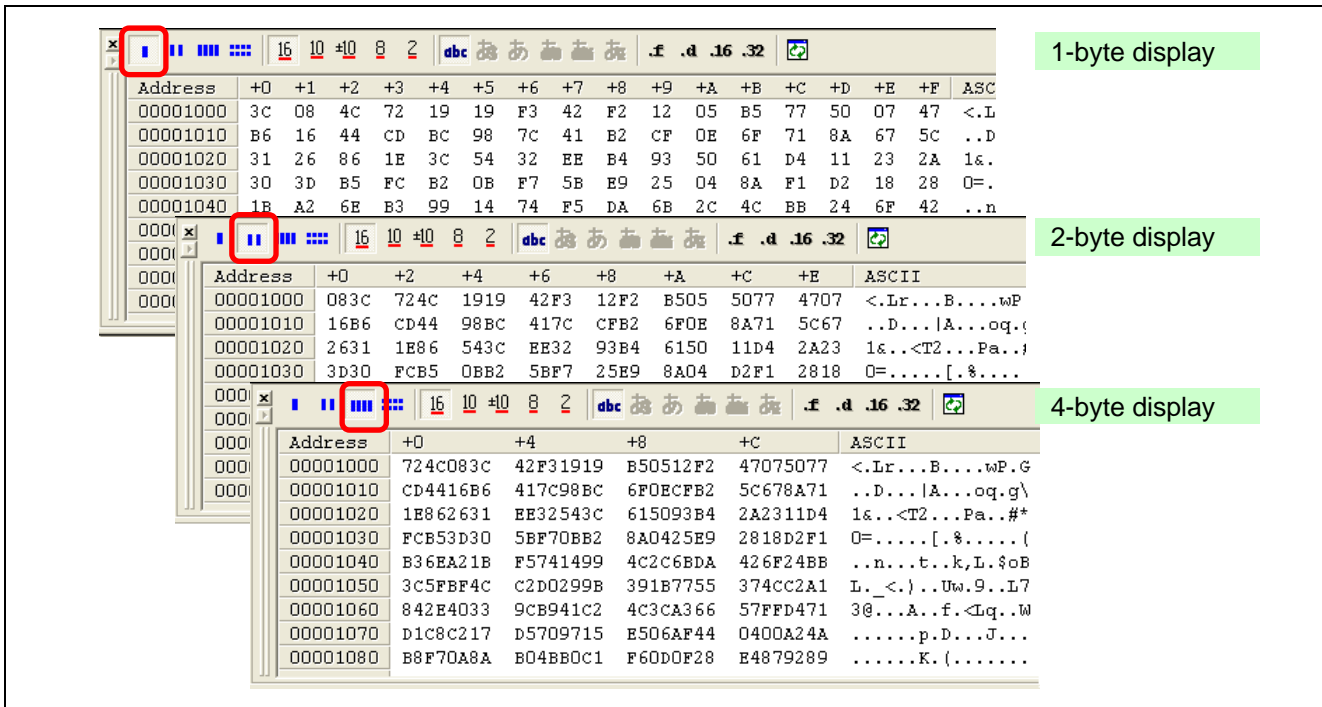

Figure 4.41 Changing Data Display Size in [Memory] Window
(3) The data display size can be changed. See Figure 4.41 for the access size change.